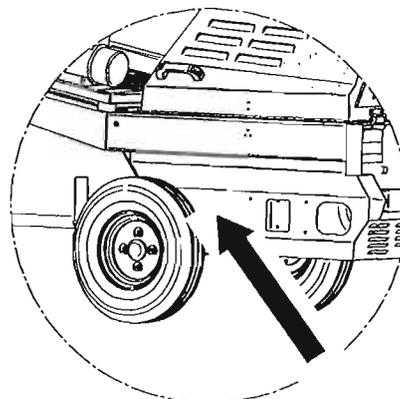

FIG 12
-Lubricate with grease daily via the hole in figure 12